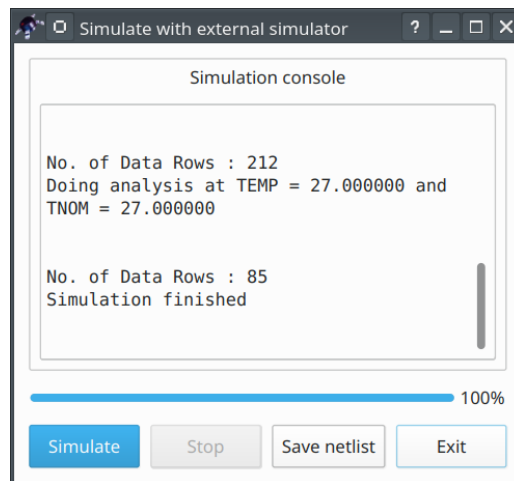

Figure 8: Simulation dialog
- **Step 6:** simulate the schematic. Press the *Simulation* -> *Simulate* or press the F2 hotkey on the keyboard. The dialog window containing the simulator log messages will appear shortly (Fig. 8). This dialog window contains the simulation console where the messages from the Ngspice are shown.